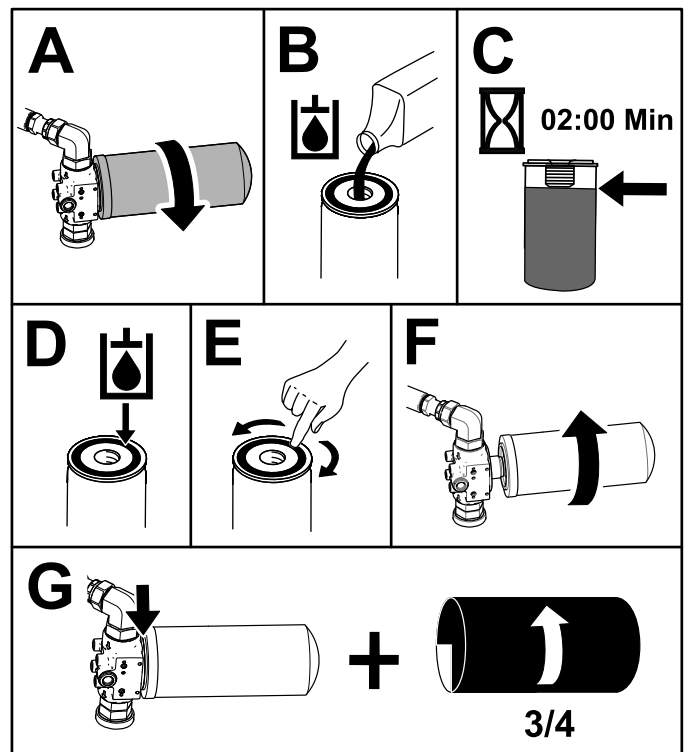

Figure 77
5. Place a drain pan under the front filter and replace the filter (Figure 77).